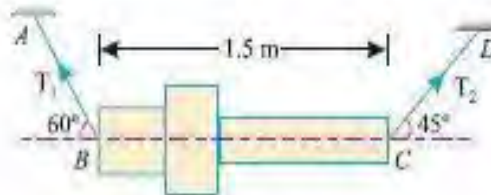

Fig. 2.2.
**Example** , A machine component 1.5 m long and weight 1000 N is supported by two ropes AB and CD as shown in Fig. 2.2 given below.